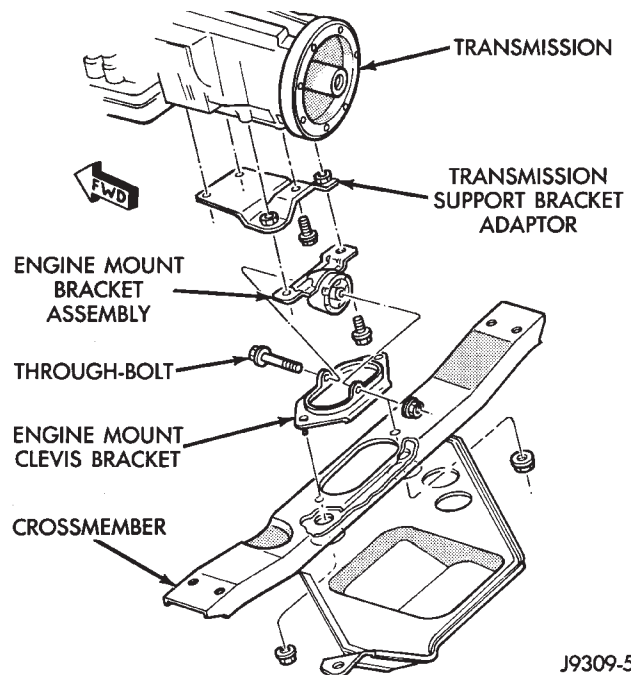

Fig. 6 Engine Rear Support Assembly
- (1) Disconnect the negative cable from the battery.
- (2) Raise the vehicle on a hoist.
- (3) Support the transmission with a jack.
- (4) Remove engine mount bracket through-bolt (Fig. 6).
- (5) Raise the transmission and engine *SLIGHTLY*.
- (6) Remove stud nuts attaching engine mount clevis bracket to crossmember (Fig. 6). Remove bracket.
(1) If the transmission support bracket adaptor was removed, position the adaptor to the transmission (Fig. 6). Tighten the bolts to 95 N•m (70 ft. lbs.) torque.
(2) Install the engine mount clevis bracket onto crossmember. Tighten the stud nuts to 41 N•m (30 ft. lbs) torque.
(3) Install the engine mount bracket assembly to the adaptor. Install the 3 bolts and tighten to 75 N•m (55 ft. lbs.) torque.
(4) Lower the transmission and engine while aligning the engine mount bracket assembly to the engine mount clevis bracket.
(5) Install through-bolt and tighten the nut to 65 N•m (48 ft. lbs.) torque.
(6) Remove transmission jack.
(7) Lower the vehicle.
(8) Connect the negative cable to the battery.